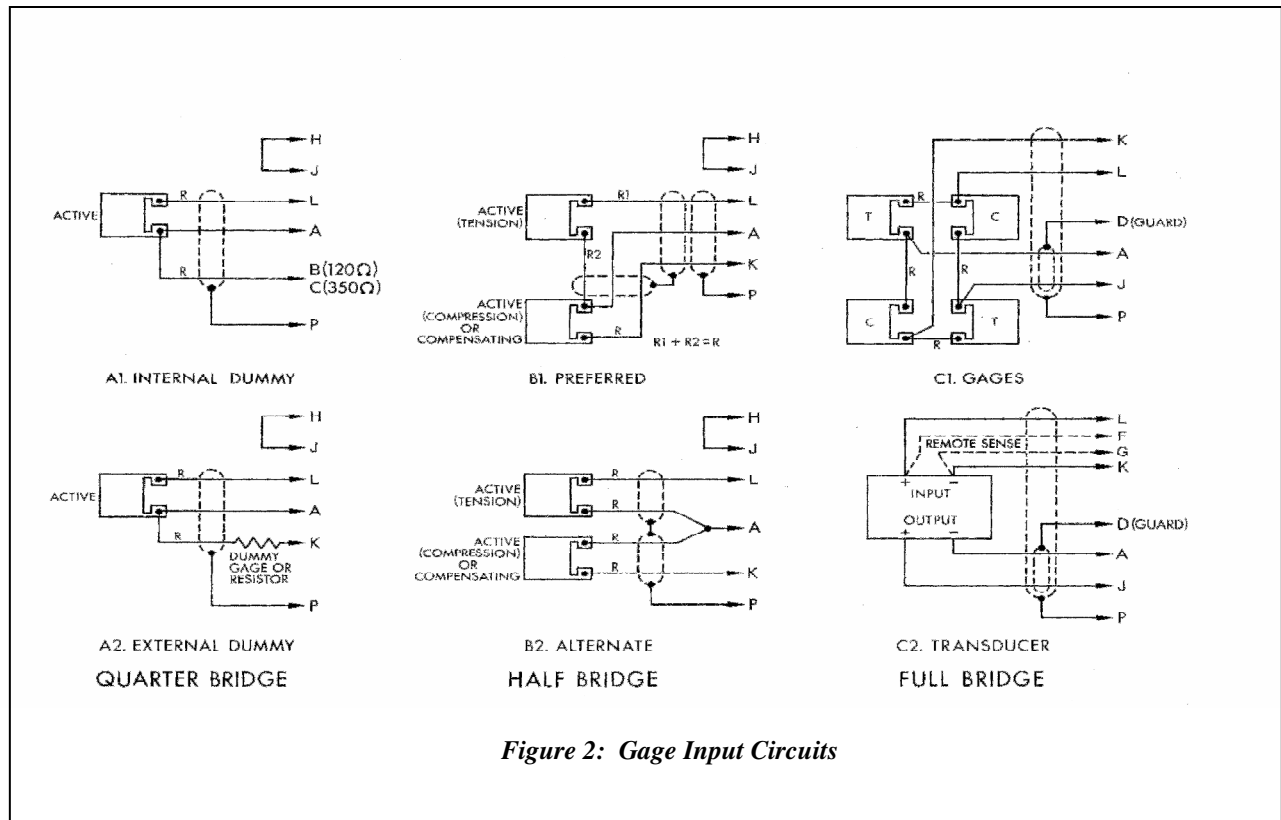
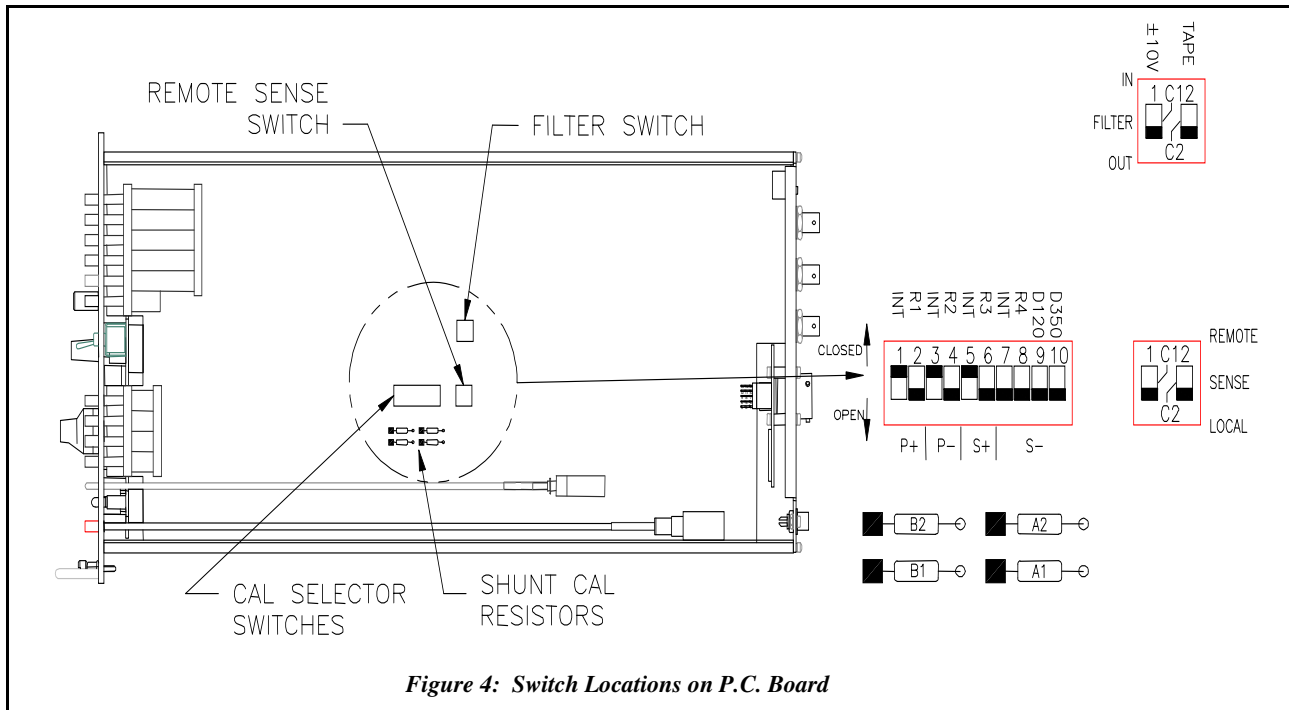

Figure 2: Gage Input Circuits
Figure 4: Switch Locations on P.C. Board
4.2b The basic input arrangements are shown in Figure 2. Note that, except when using an external full bridge, there must be a jumper in the input plug connecting pins H and J; this connects the midpoint of the internal half bridge to the S+ amplifier input. Precision 120Ω and 350Ω dummy gages are provided in each Model 2310B. If using a quarter bridge with resistance other than 120Ω, 350Ω, or 1000Ω, use circuit A2 in Figure 2. For 1000Ω quarter bridges, see Appendix.
4.2c When using an external full bridge (especially a precision transducer), it may be desirable to employ the remote-sense circuitry provided in the 2310B to maintain constant excitation at the transducer regardless of lead resistance. To enable this circuit, open the right side-cover of the 2310B and raise the small red SENSE switch to REMOTE (see Figure 4). Connect the sense leads between the transducer and pins F and G of the INPUT plug as shown in Figure 2, C2.
4.2d If it is desired to employ shunt-calibration across one of the external bridge arms, additional wiring is required to achieve maximum accuracy (see 5.0 **Shunt Calibration** for details). However, for half- or quarter-bridge inputs, shunting the internal dummy half bridge or dummy gage is normally recommended; neither of these circuits requires additional wiring from that shown in Figure 2.
- a) In the quarter-bridge circuit, *always* use the three-leadwire circuit shown in Figure 2, rather than the more obvious two-leadwire circuit.
The filter can affect either one or both of the outputs. To select the outputs to be filtered, open the right side-cover of the 2310B and note the two toggles on the red FILTER switch (near the top of the p.c. board) marked ±10V, and TAPE; this switch is shown in Figure 4. Any toggles in the IN (up) position indicate that that output will be filtered when any FILTER button other than WB is depressed; outputs for which the toggle is in the OUT (down) position will still be operating at wide-band. Filter characteristics are discussed in 4.13 Filter.